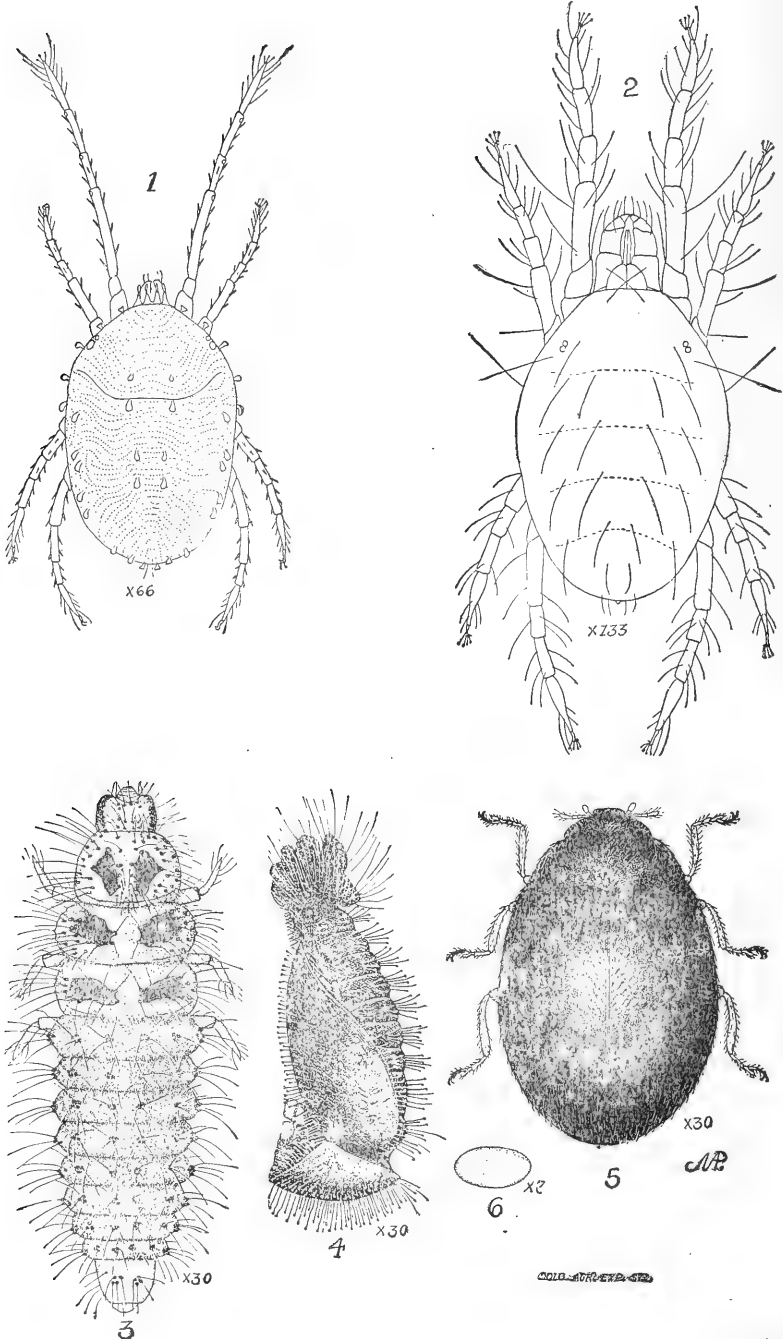

Fig. 134—1, brown mite; 2, red spider; 5, lady-bird beetle, 3, larvae, 4, pupa, 6, egg. (Colorado Exp. Station.)
- c. **Adult.** Fig. 134—1.
1. Stages of development. Fig 134—2.